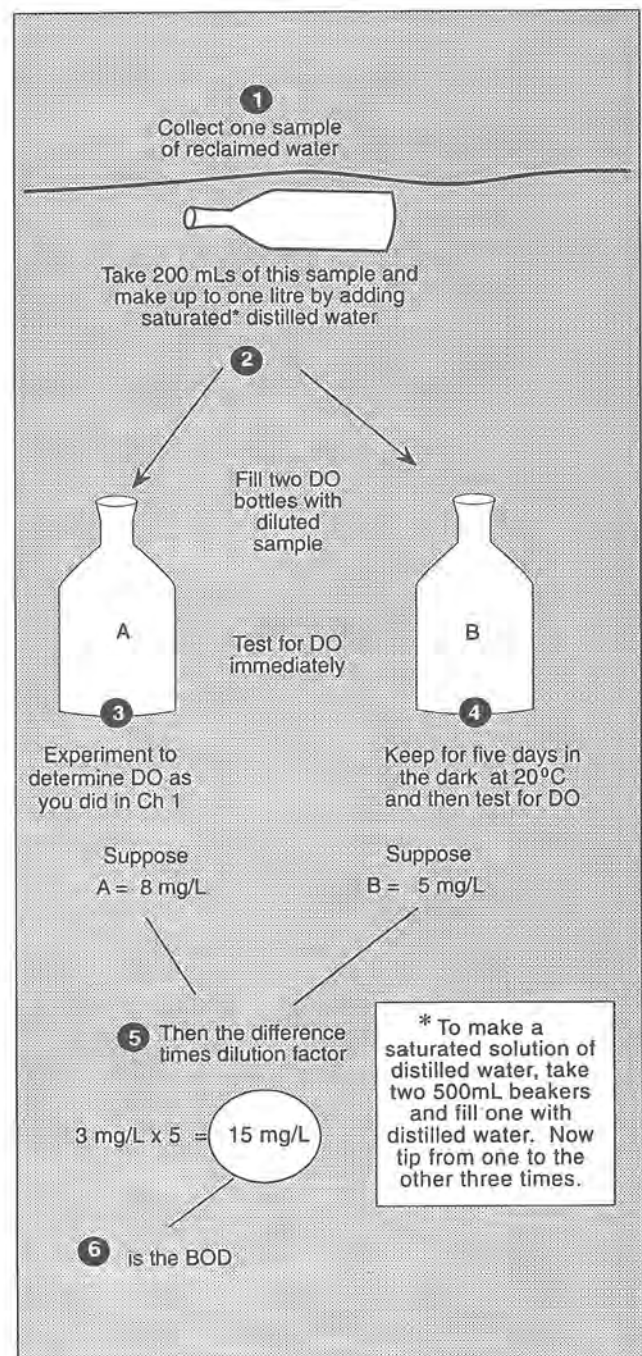

Fig 5 Summary of a general method for determining BOD
- dilute a 200 mL sample of treated sewage effluent with 800 mL of distilled water (see Figure 5)
- test the DO of one sample immediately and record the result eg. 8 mg/L (see Figure 5)
- store the other sample for five days in a dark place at 20 degrees Celsius. (see Figure 5)
- test the DO of the stored sample after five days eg. 5 mg/L (see Figure 5)
- Therefore BOD is 15mg/L (see Figure 5).
Figure 5 summarises the above procedure. The same test can be done directly on stream or estuarine water but the sample is not diluted.